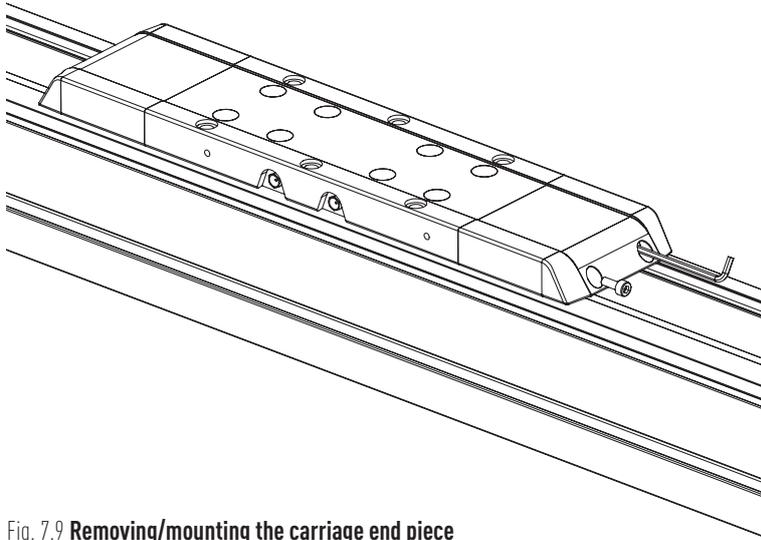

Fig. 7.9 Removing/mounting the carriage end piece
- ▶ Undo the carriage end piece screws. Remove the end pieces from both ends of all carriages (see Fig. 7.9).
- ▶ Place the carriage end pieces on the cover strip deflection as shown in Fig. 7.9 and hand-tighten the mounting screws.